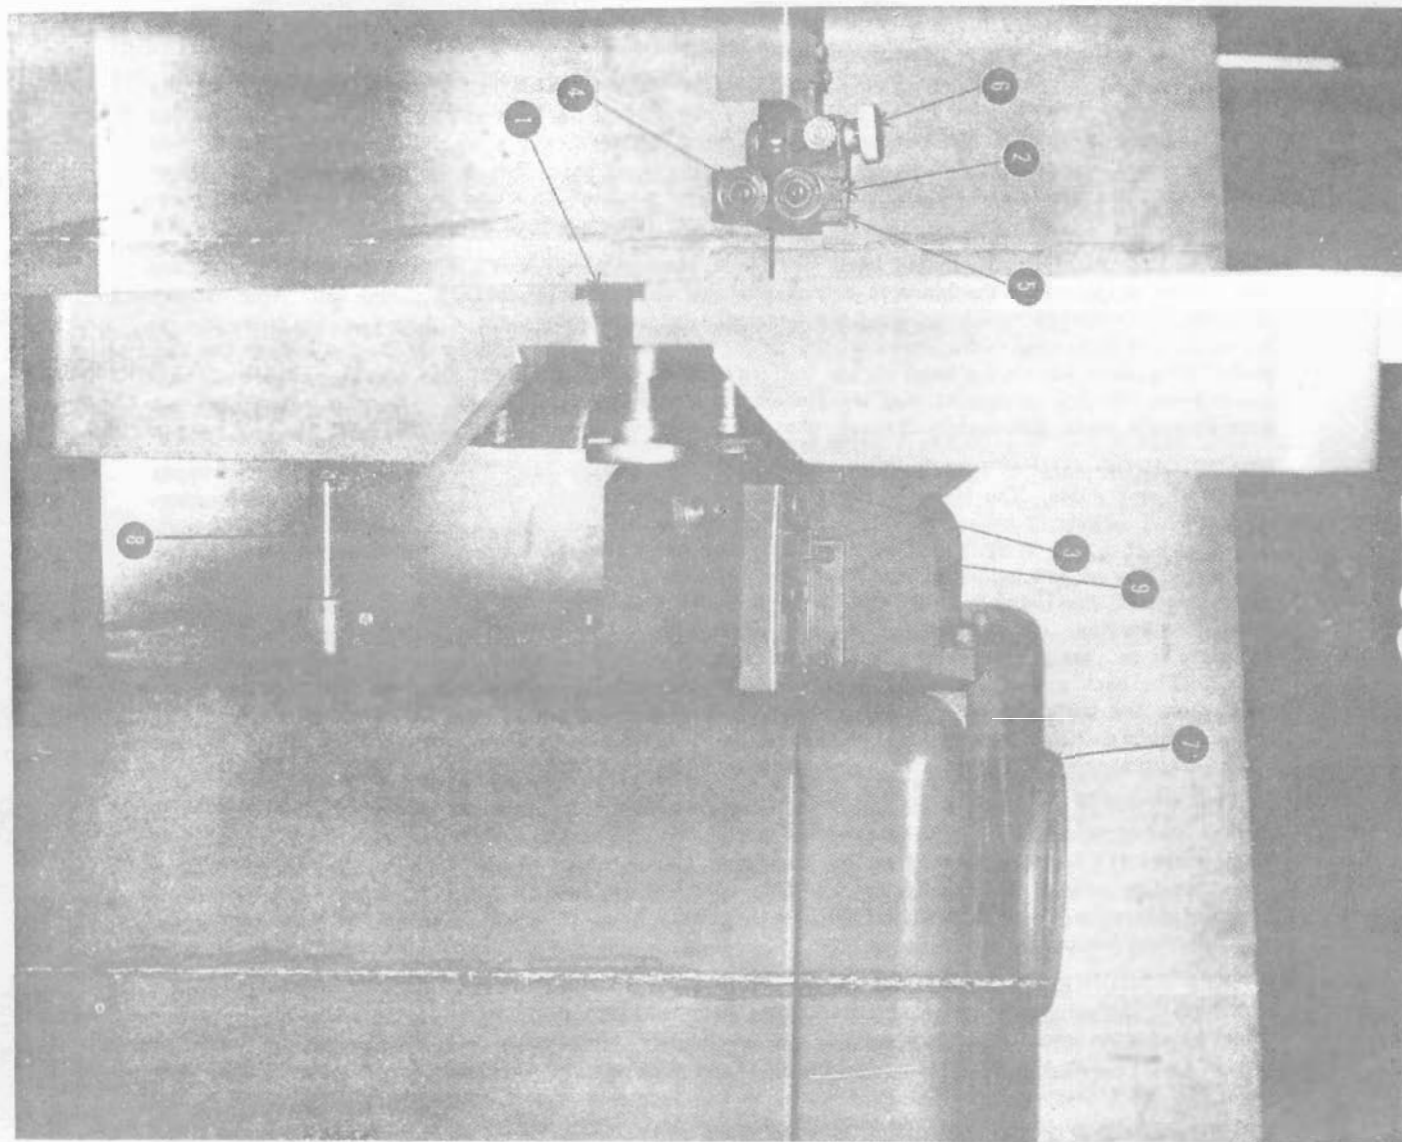

Fig. 1
**INSTALLING BLADE:** To install band saw blade, remove table insert (1) fig. 1 from table; open top and bottom doors. Take the blade in both hands and slide through table slot and over band wheels. With the blade placed in the center of the band wheels, increase tension on upper wheel with tension screw (2) fig. 2, located under upper wheel. Set upper and lower saw guides so they will clear the saw blade. Turn band wheels by hand to see that saw blade tracks properly. For accurate work and maximum blade life it is important that the blade runs centered on the wheels. When the adjustment has been properly made, the blade will track; that is, it will run steadily in the same line.
**BLADE GUIDE ADJUSTMENT:** For proper operation, the saw blade must be supported by an upper and lower saw guide. The lower guide is mounted under the table and the upper guide on a counter-balanced bar (3) fig. 2 above the table. The purpose of the saw guide is to support the blade for cutting circles (See 2 & 3, fig. 1). It is very important that the guides be set in proper relation to the saw blade. To set the guides to saw blade, set tension on blade and start the saw to check tracking on band wheel. Set the side blocks or bearings (4) fig. 1 as close to the saw as possible without causing friction or binding. Guide blocks are held in place with socket head set screws (5) fig. 1. After blade clearance is set, the guide holder should be set so that edge of the guides are just behind saw teeth gullets. The back guide consists of a ball bearing mounted in an adjustable bar. The bearing is set 1/64" from the back edge of saw blade when blade is running not loaded. The back guide should be set at a slight angle to back of blade so that the edge of the blade will not cut a groove in back bearing guide. Back bearing is adjusted by turning knurled knob (6) fig. 1.
**TABLE ADJUSTMENTS:** The table is mounted on an extremely heavy duty single action trunion that rests on trunion base (9) fig. 1. The table may be tilted to the right 45 degrees and to the left 15 degrees. Table is locked in position with trunion handwheel mounted on side of machine base (7) fig. 1. To level table with blade, raise counter-balanced arm to highest position and place machinist square against side of blade. Set table stop (8) fig. 1 on side of table by adjusting screw on top of the stop. Stop bar may be removed for tilting table to the left.